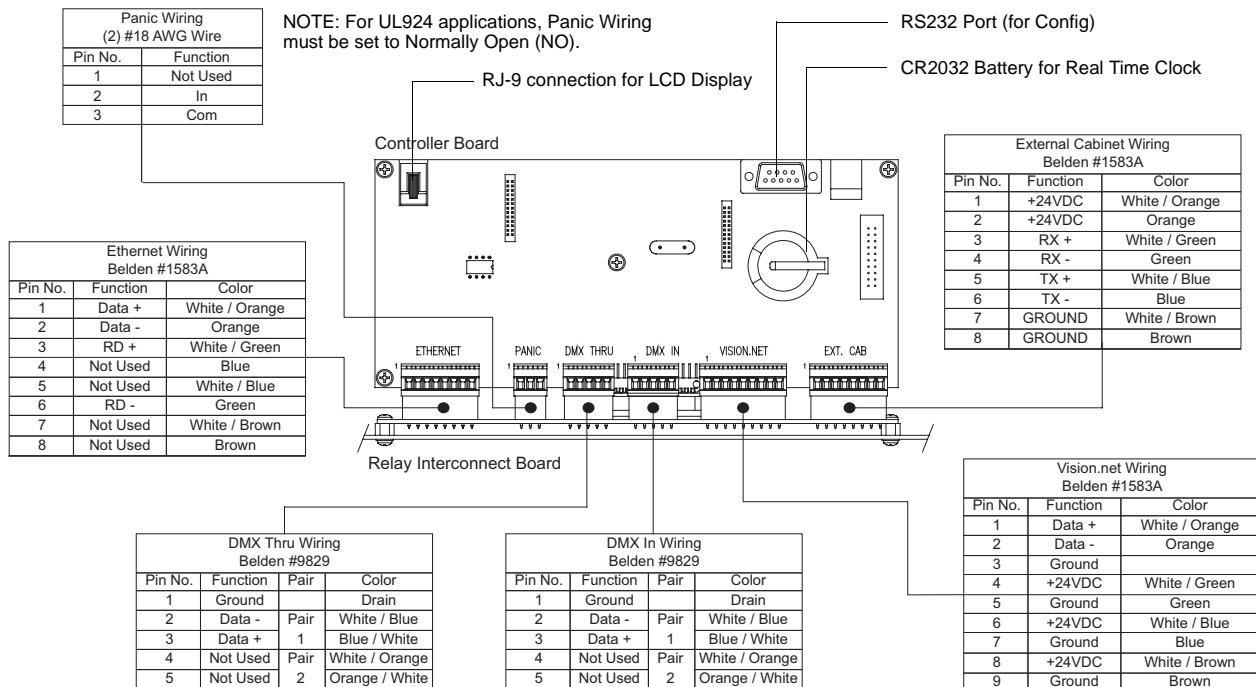

Figure 5: Controller / Relay Interconnect PCB Connections
- Step 6. Connect wiring to appropriate locations on Controller PCB. See **Figure 5**.